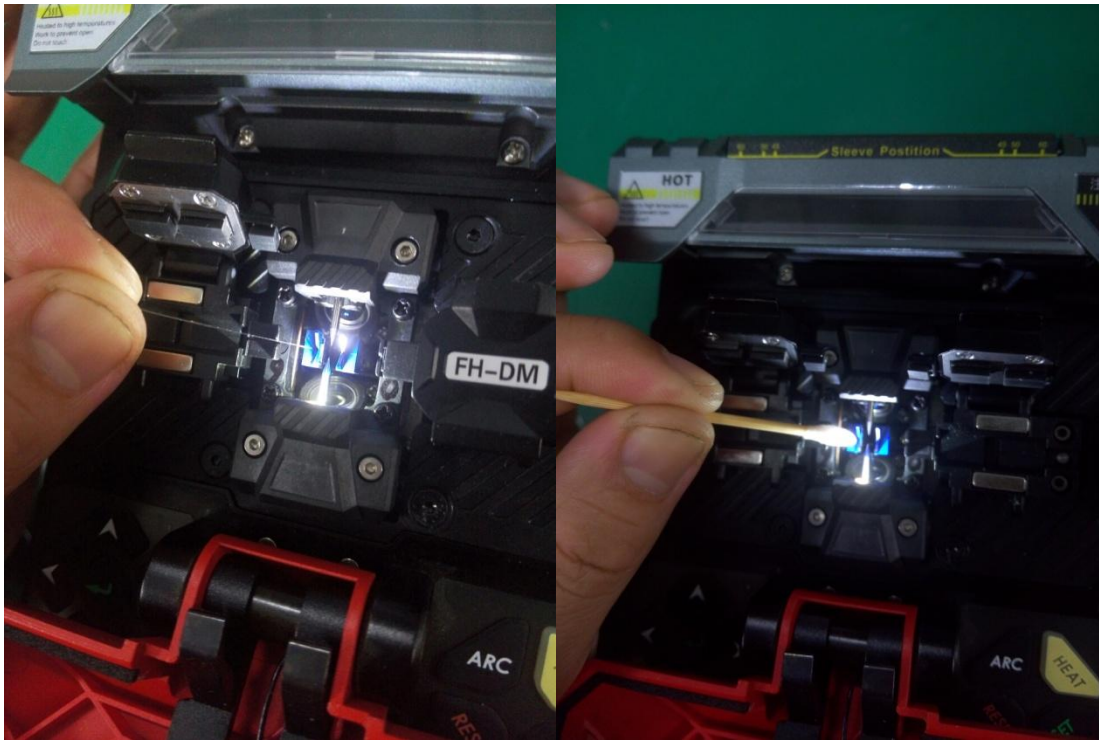

Fig.22 Cleaning of V-groove
- a) As shown in Fig.22, open the dust cover;